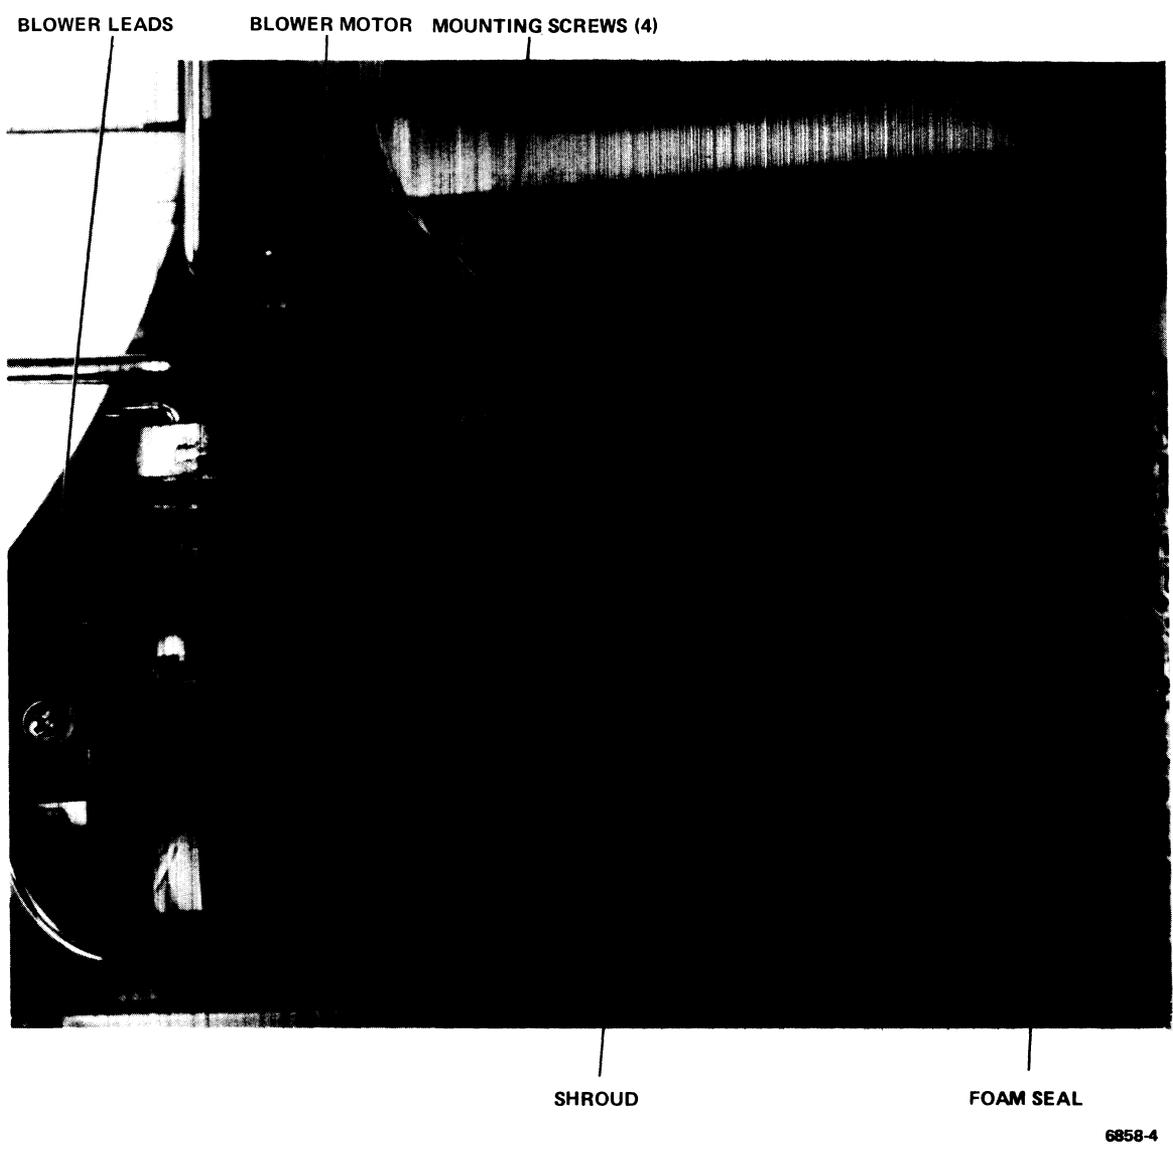

Figure 5-10 Blower Motor Removal
5.3.6.1 Blower Removal (Figure 5-10)